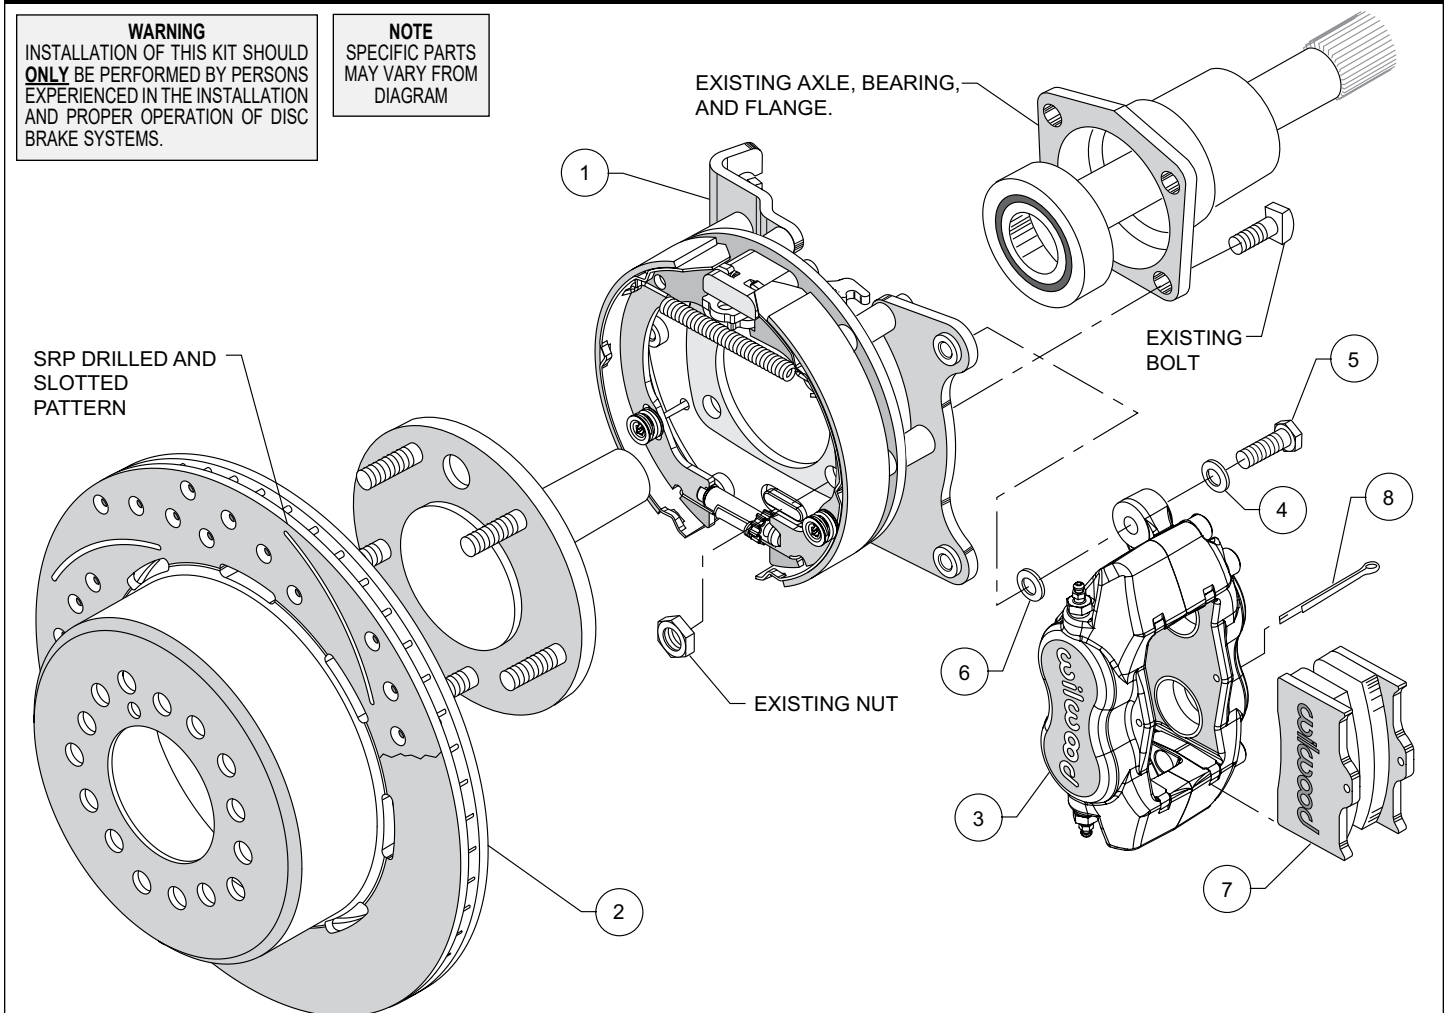
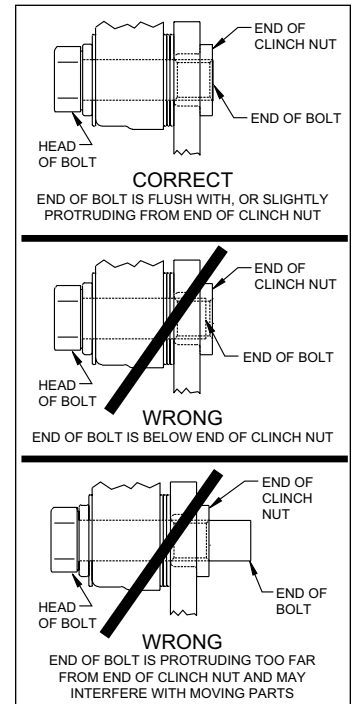

Figure 1. Typical Installation Configuration
Figure 4. Clinch Nut Engagement Diagram
NOTE: Numbers in parenthesis refer to the parts list and Figure 1 on the preceding pages.
CAUTION: All mounting bolts must fully engage clinch nuts. Be sure to check that all bolts are either flush or protruding through flanged side of clinch nut after shimming, Figure 4.
- Orient the bracket assembly (1), as shown in Figure 1, and mount to the axle housing flange using the Original Equipment Manufacturer (OEM) bolts and nuts, Figure 1. Ensure that the bracket assembly backing plate fits flush against the axle housing flange. Apply red *Loctite*® 271 to the OEM bolt threads and torque to OEM specifications.
- NOTE:** Please reference the caution statement at the beginning of the assembly instructions. Mount the caliper (3) onto the caliper mounting bracket (1) using bolts (5) and washers (4), as shown in Figure 1. Initially place one .035" thick shim (6) on each bolt between the caliper and the bracket, Photo 2. Temporarily tighten the mounting bolts and view the rotor (2) through the top opening of the caliper. The rotor should be centered in the caliper, Photo 3. If not, adjust by adding or subtracting shims between the bracket and the caliper. Always use the same amount of shims on each of the two mounting bolts. **NOTE:** The end of each bolt must be flush with or slightly protruding from the head of the clinch nut, as shown in Figure 4. If necessary place spare shims between washer (4) and caliper mounting ear to achieve the proper clinch nut engagement. Once the caliper alignment and clinch nut engagement are correct, remove the bolts one at a time, apply red *Loctite*® 271 to bolt threads, and torque to 40 ft-lb.